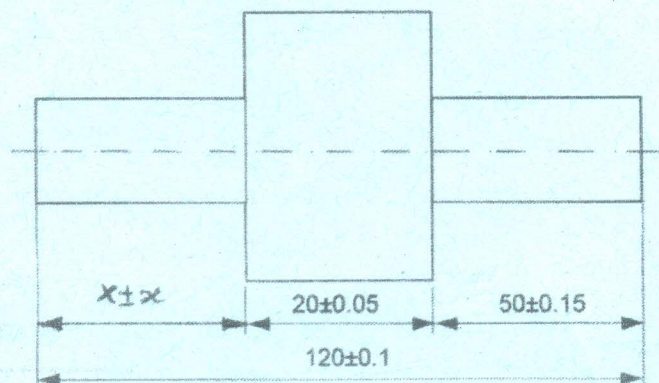

Fig. 4
- (b) (i) Define process capability index. Specify any two methods to improve C_p , value of a process, when it is less than one. Also sketch the conditions for $C_p = 1$, $C_p < 1$ and $C_p > 1$. (6)
- (ii) What are the advantages of geometric tolerances? Specify any four geometric tolerances with symbols. (4)
- (iii) Calculate the unknown dimension for the component shown in Fig.4, based on worst case method. (6)